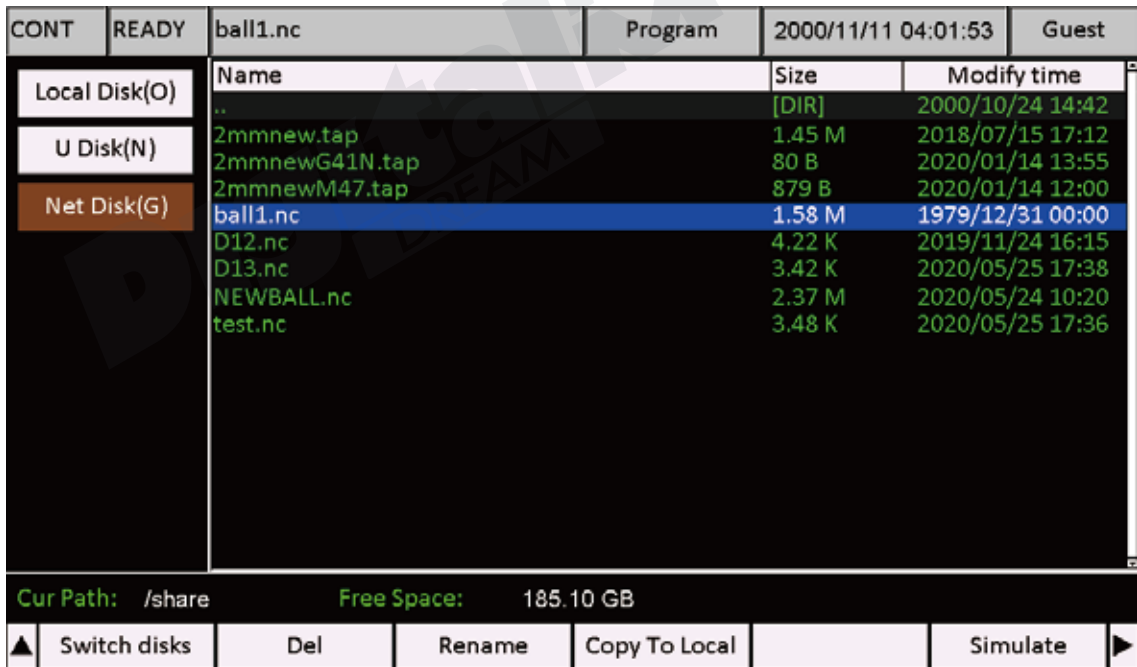

Figure 8-45 Net Disk shows the files from Computer
- 2) In the Page of Program, press the “Swtich disks” button(F1), switch to “Net Disk”, and we can see the files as Figure 8-45;